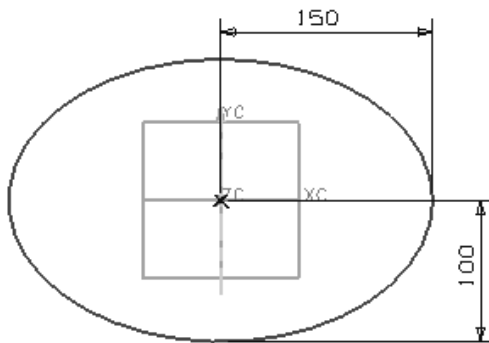

Figure 11-86 The sketch for the guide string
1. Draw an ellipse on the XC-YC plane as per the dimensions shown in Figure 11-86 and exit the **Sketcher** environment.